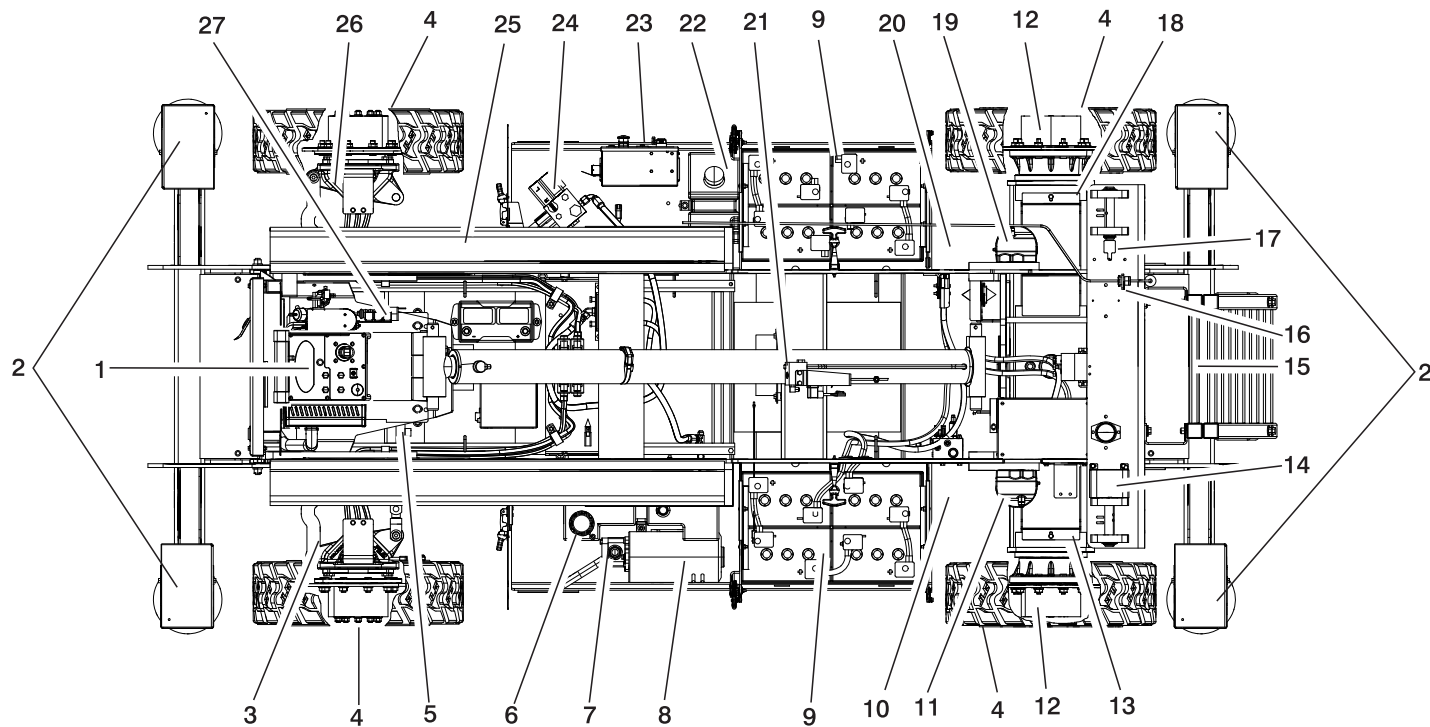

Figure 2-1. Walk-Around Inspection (Sheet 1 of 3)
5. **“Walk-Around” Inspection** – Refer to Figure 2-1., Walk-Around Inspection (Sheet 1 of 3).